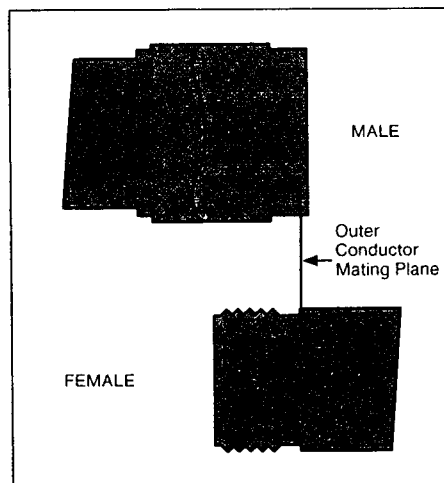

Figure 7. Type-N connectors
**Type-N Connectors.** Type-N connectors also differ from other connector types in that the outer conductor mating plane is offset from the mating plane of the center conductors. The outer conductor sleeve in the male connector extends in front of the shoulder of the male contact pin. When the connection is made, this outer conductor sleeve fits into a recess in the female outer conductor behind the tip of the female contact fingers (Figure 7).